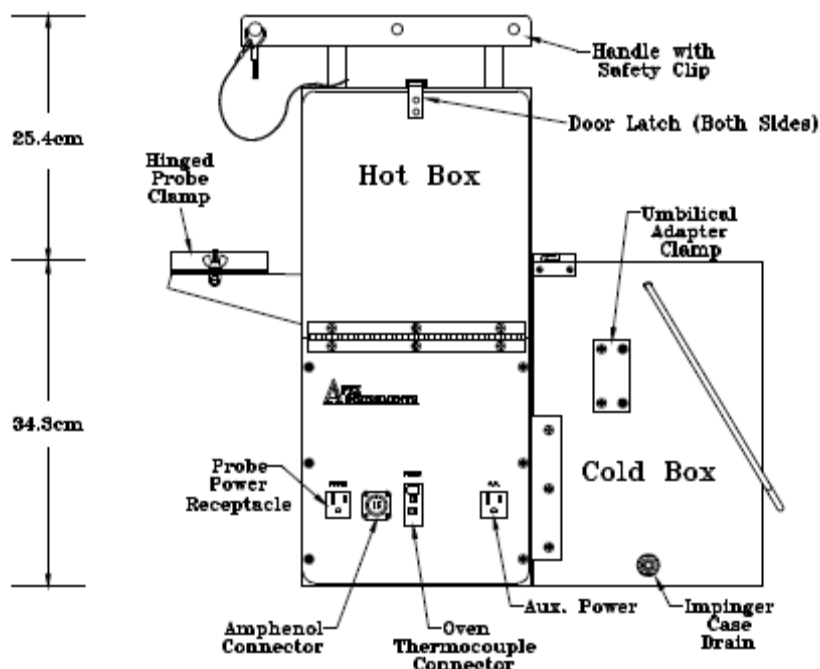

Figure 10 - Modular Sample Case Components and Accessories
The Modular Sample Case is used for support, protection and environmental control of the glassware in the sampling train. Figure 10 illustrates the major components and accessory connections on the Modular Sample Case. The Modular Sample Case consists of an insulated heated filter compartment (Hot Box) and insulated impinger case (Cold Box). The Hot Box features:
10. Connect the Umbilical Cable to the Modular Sample Case. Connect the Umbilical Cable circular connector plug to the receptacle on the side of the Hot Box (see Figure 10). Connect the labeled Umbilical Cable thermocouple plugs into the receptacles on the Hot Box, Probe Assembly, and Umbilical Adapter. Insert the Umbilical Cable sample line female quick connect into the Umbilical Adapter male quick-connect.